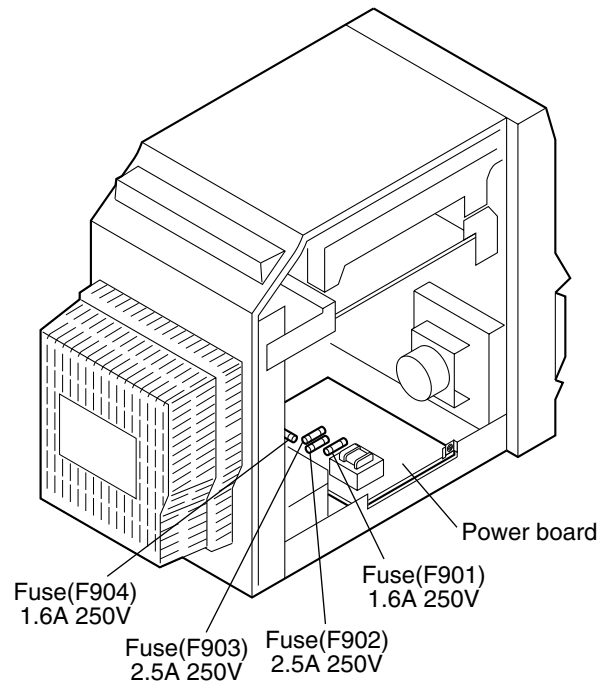

Fig.1
■ Replacing the fuses (See Fig. 1.)